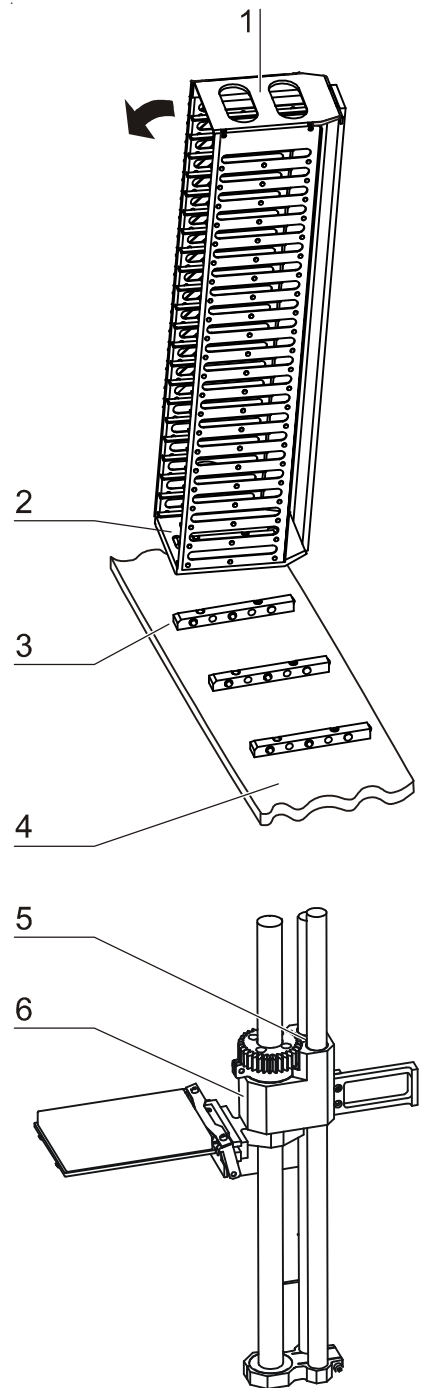

Fig. 18,
1. **Fig. 18:** Grasp the stacker by the handle plate [1] and position it slightly tilted above the locking rail [3], exert slight pressure to the front until it is engaged.